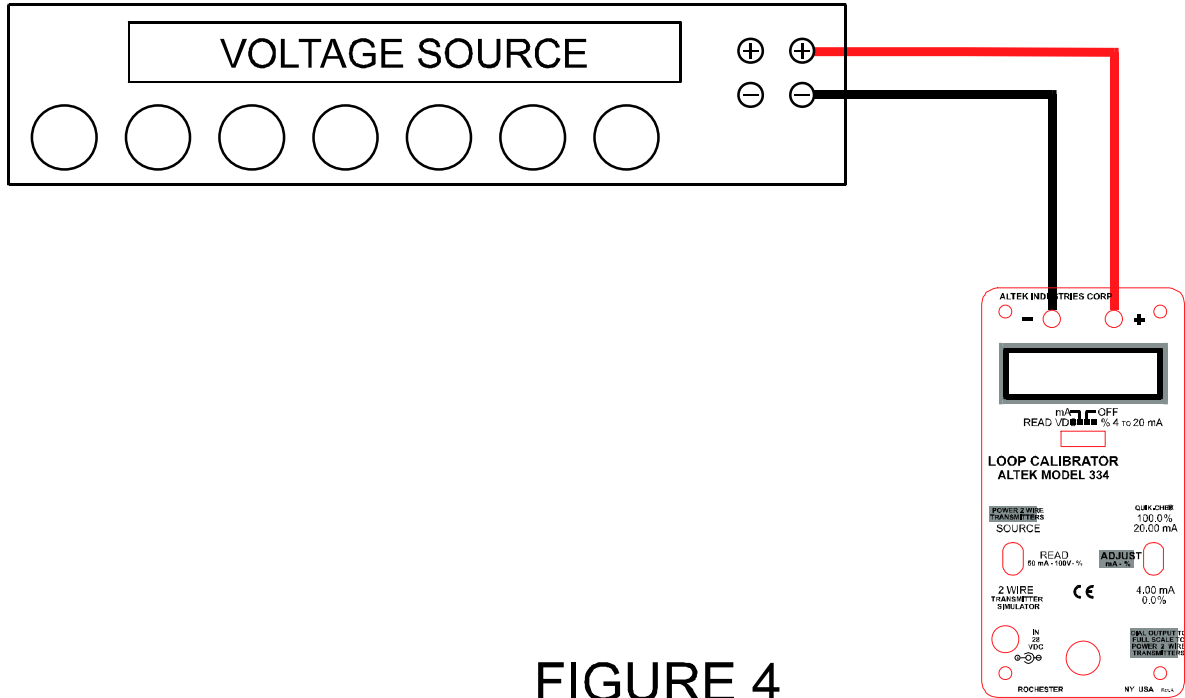

FIGURE 4
1. Connect the UUT to the Current Source as shown in Figure 4.